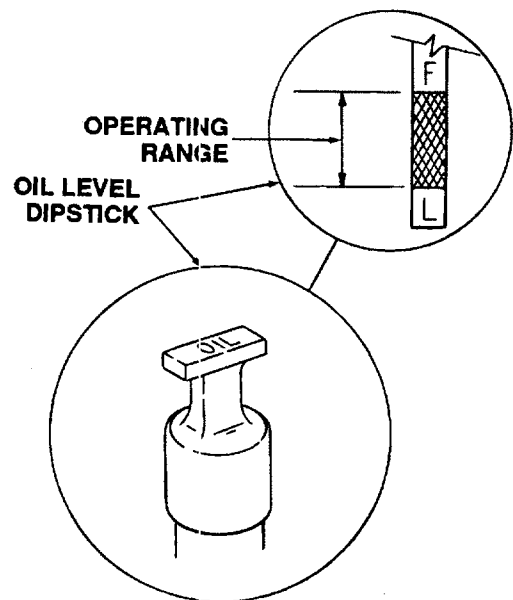

Figure 19
Before each use, the oil level of the engine crankcase should be checked to see that it is filled to the correct level. Close monitoring of the oil level during the first 10 hours of operation of the engine is especially important. Before checking the oil level, clean the area around the oil level dipstick to prevent debris from entering the crankcase. Always keep the oil level between the "FULL" and the "LOW" marks on the dipstick (See Figure 19). When checking the oil level, the engine must be cold, the dipstick must be withdrawn and wiped clean, then inserted all the way before being withdrawn for a true reading.
3. Remove the oil fill cap/dipstick from the oil fill tube and **SLOWLY** pour oil into the oil fill tube. Fill the crankcase until the oil level reaches the "FULL" mark on the dipstick (Refer to Figure 19).
3. Remove the oil fill cap/dipstick from the oil fill tube and SLOWLY pour oil into the fill tube. The oil capacity is approximately 4 pints. Fill the crankcase until the oil level reaches the "FULL" mark on the dipstick (Refer to Figure 19).